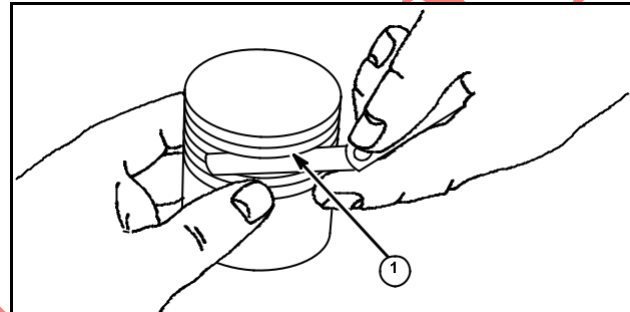

Fig. 5
2. Place a NEW ring in the groove and measure the space between the ring and the ring land (1). If a .007" (.18 mm) thick feeler gauge, Model Series 60000 through 130000, or .009" (.23 mm) thick feeler gauge, Model Series 170000 through 320000, can be inserted, the piston is worn and should be replaced, Fig. 5.